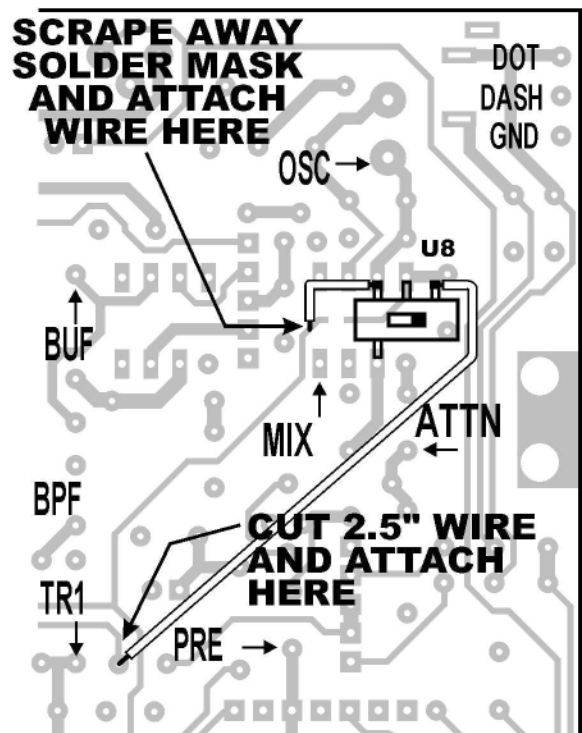

Figure 10
- I. Refer to Figure 10. With a sharp knife blade or a single-edged razor blade, scrape away about 1/8 inch (3 mm) of the green solder mask from the PC board land which was just cut and which runs diagonally down and to the left. This is the land which is no longer attached to U8-8.
- K. As shown in Figure 10, loop the hooked end of the shortest of the two wires around the switch lead closest to the cut land and solder into place. Then, solder the free end of the jumper wire to the land which you cleaned in step I, above. See Figure 10.